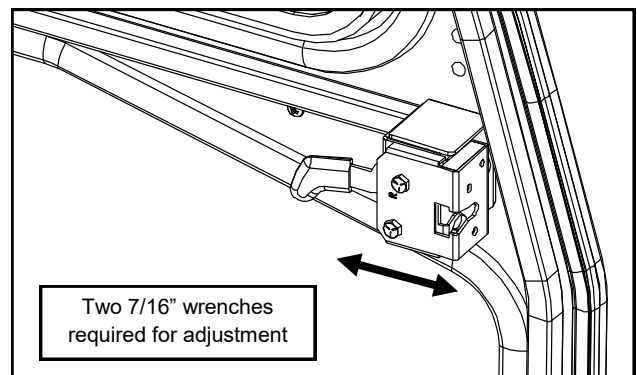

Fig. 20.2b (door latch adjustment)
- Adjust the latch located inside the door horizontally - See fig. 20.2b